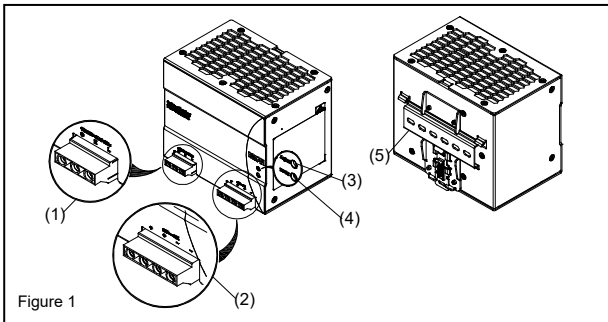
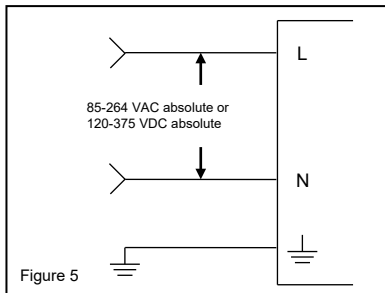

Figure 1
Figure 5
2. Device description (Fig. 1)
5.1. Input connection (Fig. 1 (1), Fig. 5)
For AC input connections, use L, N and PE connections of input terminal connector (see Fig. 1 (1)) to establish the 100-240 VAC connection.
5.2. Output connection (Fig. 1 (2))
Use the "+" and "-" screw connections to establish the 24 VDC connection. The output provides 24 VDC. The output voltage can be adjusted from 24 to 28 VDC on the potentiometer. The green LED DC OK displays correct function of the output (Fig. 1 (4)). The device has a short circuit and overload protection and an overvoltage protection limited to 35 VDC.